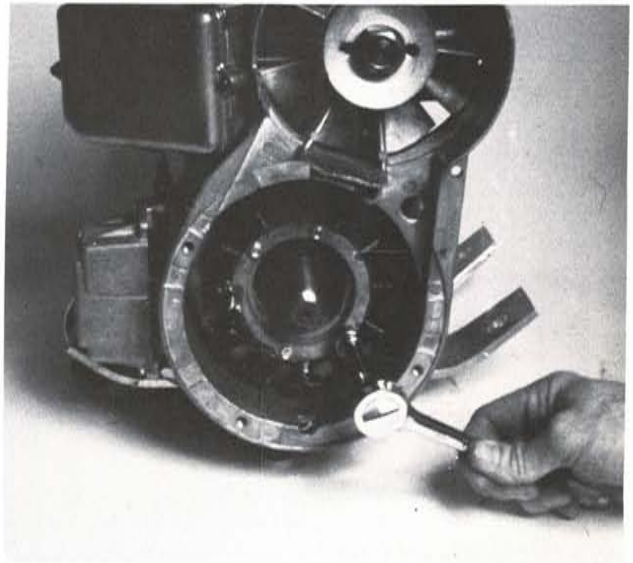

FIG. 15
14. Next scribe matching marks on stator and ventilator housing so stator can be reinstalled in exactly the same position later. Then remove the four stator mounting screws. (Fig. 15)